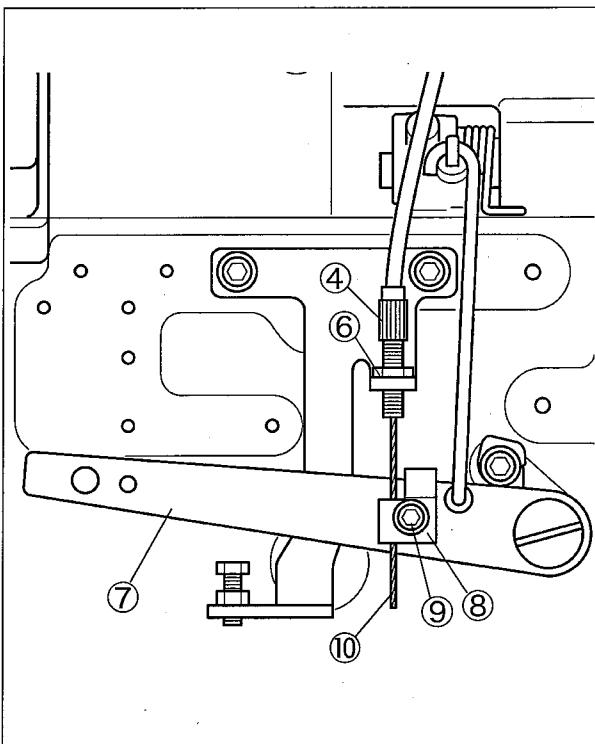

Fig. 3
3. Loosen the screw⑨ on the wire stopper (lower)⑧ which is on the lifter lever⑦ side (behind the sewing machine). (Fig. 3)
- (1) Remove the wire stopper (upper)⑪.
- (2) Make the wire pass the groove in the wire stopper block⑬. And send the wire⑩ until it touches the left end of wire stopper block⑬.
- (3) Reinstall the wire stopper (upper)⑪.
5. Put the wire on lifter lever⑦ side (behind the sewing machine) under the wire stopper (lower)⑧, tighten the screw⑨ to fix the wire⑩ securely. Make sure the wire⑩ has not been loosened up. (Fig. 3)